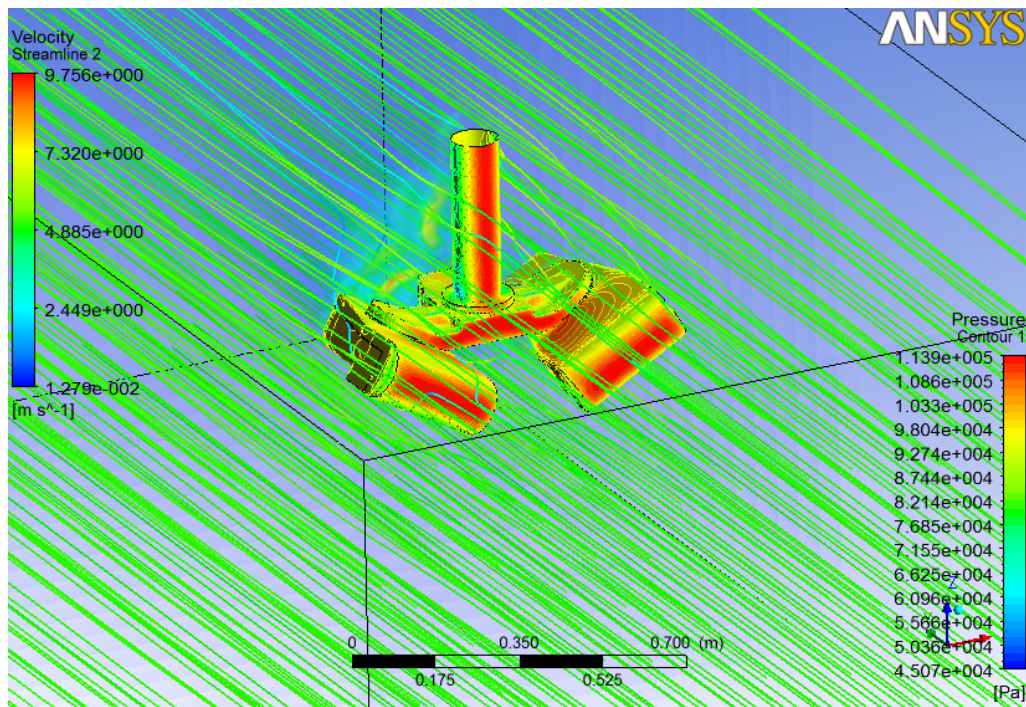
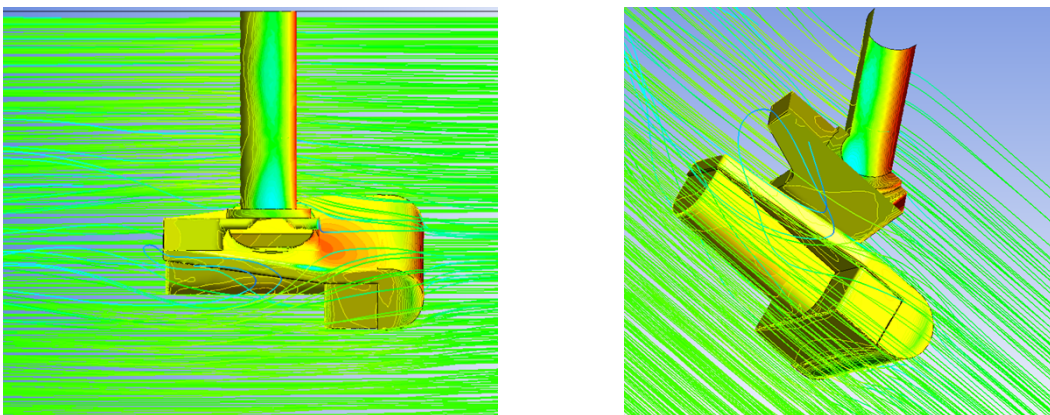
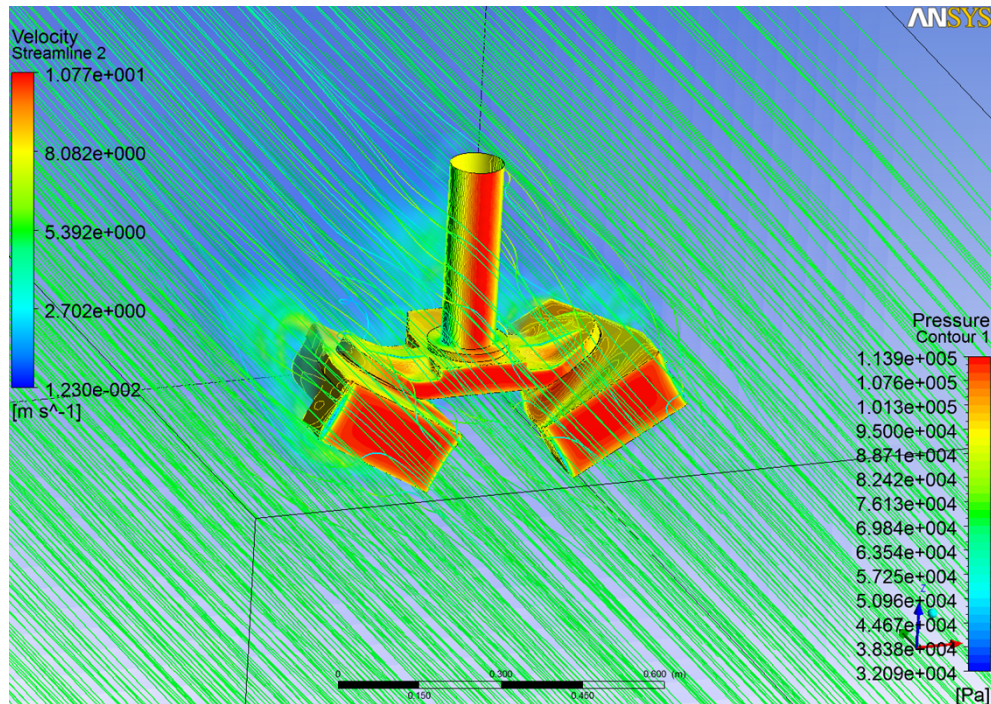
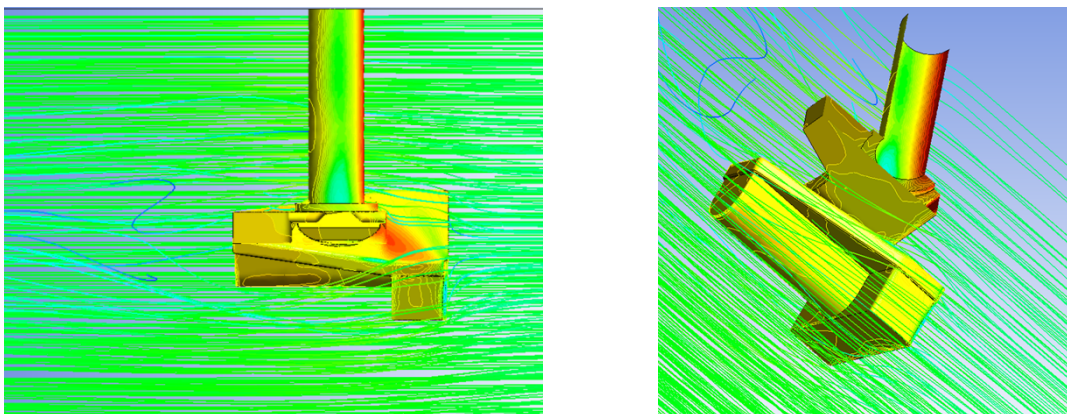

Figure 46: Flow at 10 knots around Dual T20 with Fairings
Figure 47: Flow around Dual T20 with Fairings, Cross Section of Symmetry Plane
Figure 48: Flow at 10 knots around Dual T20 without Fairings
Figure 49: Flow around Dual T20 without Fairings, Cross Section of Symmetry Plane
- T20 dual head (shallow) **with** front fairing (*Figure 46* and *Figure 47*) or **without** front fairing (*Figure 48* and *Figure 49*).
Figure 46 illustrates the flow at 10 knots around the T20 dual head with front fairings. The drag on the pole, sonar heads, and bracket is in the region of 1100N. The same situation without front fairings is shown in Figure 48.
Figure 47 is a cross section of the symmetry plane of the T20 dual head. The front fairings and bracket assure a steady water flow around the receivers and projectors. The same situation without front fairings is shown in Figure 49.
Figure 48 illustrates the flow at 10 knots around the T20 dual head without front fairings. The drag on the pole, sonar heads, and bracket is in the region of 1550N. The same situation with front fairings is shown in Figure 46.
Figure 49 is a cross section of the symmetry plane of the T20 dual head. Without the front fairings the flow is still reasonable, but not as steady as with the fairings in front of the receivers. The same situation with front fairings is shown in Figure 47.